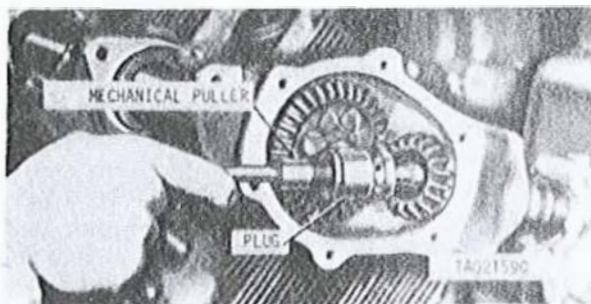
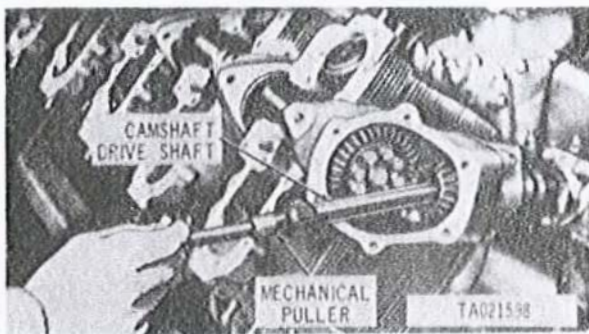
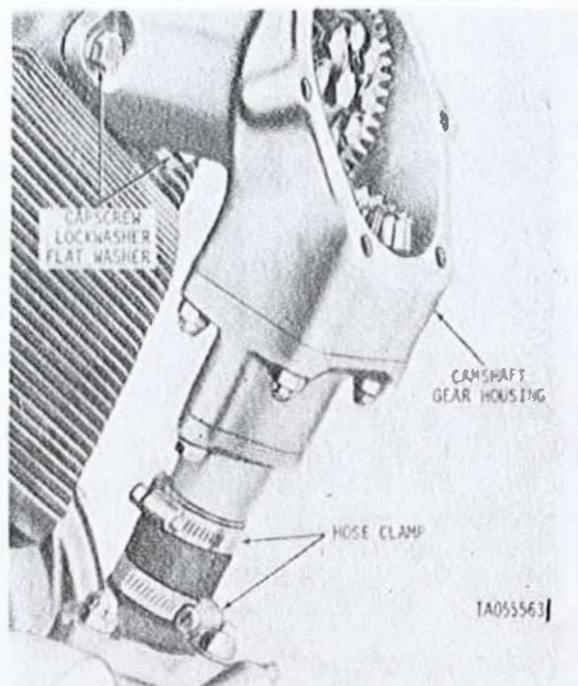
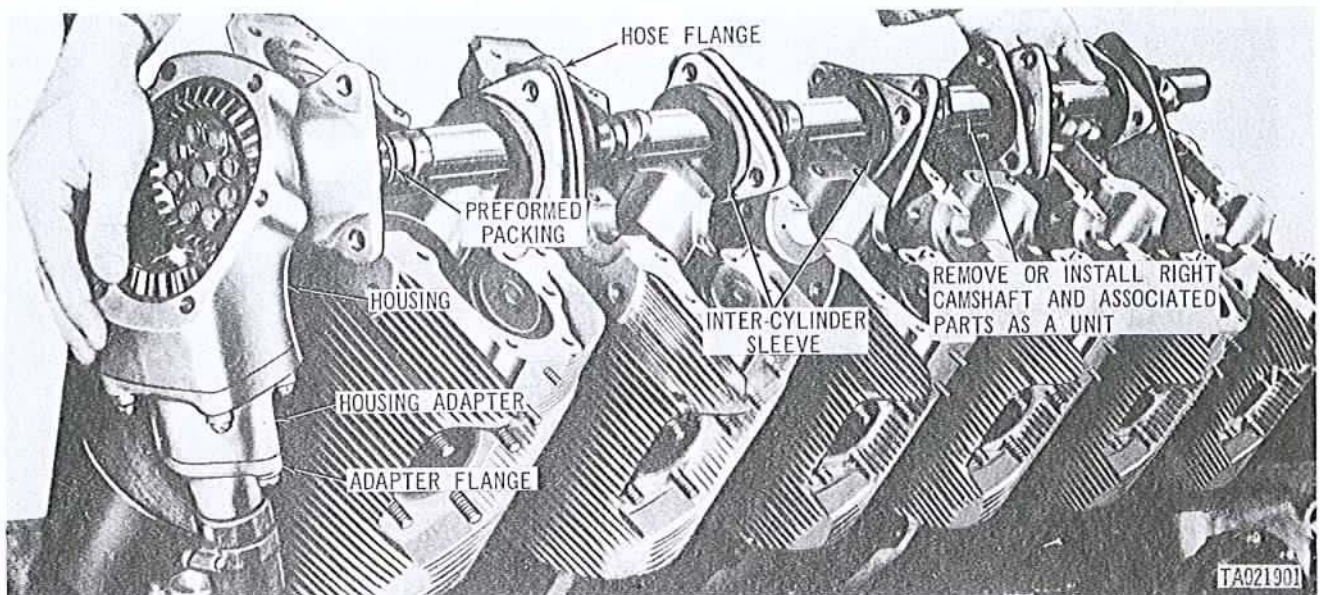

Figure 3-72. Removing or installing camshaft drive gearskuff oil transfer plug.
Figure 3-73. Removing or installing camshaft drive shaft.
Figure 3-74. Disconnecting or connecting right camshaft gear housing at cylinder 6R.
Figure 3-75. Removing right camshaft.
f. Install mechanical puller Part No. 8761297 (fig. 3-72) into threaded end of camshaft drive gearshaft oil transfer plug and remove oil transfer plug. Install mechanical puller Part No. 8761297 (fig. 3-73) into threaded end of camshaft drive shaft and remove camshaft drive shaft. Loosen two camshaft gear housing drain tube hose clamps (fig. 3-74). Remove two cap screws, flat washers and lockwashers attaching camshaft gear housing to cylinder 6R and remove camshaft and associated parts as a unit (fig. 3-75). Remove and discard camshaft gear housing gasket.